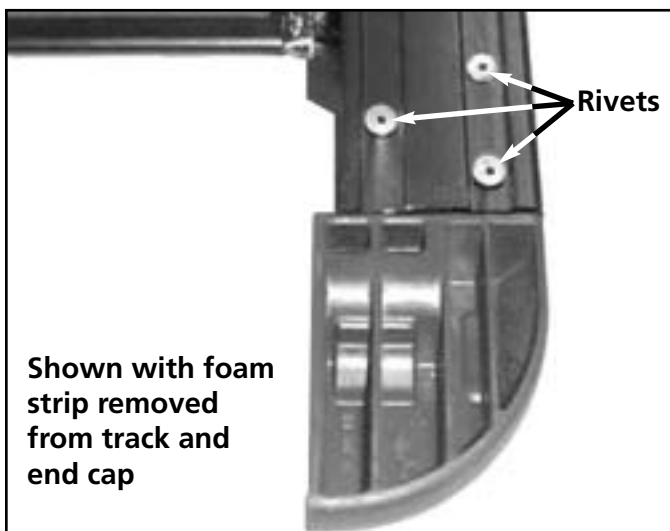

Figure S-44
8. Drill out the end cap retaining rivets on each track (3 per side) using care not to drill into the tracks themselves. Pull end caps out of track. See figures S-44 and S-45.